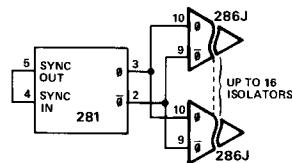
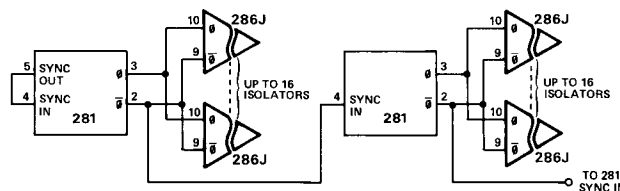

Figure 25. Model 281/286 Connection for Driving from 1 to 16 Isolators
Figure 26. Model 281/286 Connection for Driving > 16 Isolators
Model 281 oscillator is capable of driving up to 16 model 286Js as shown in Figure 25. An additional model 281 may be driven in a slave-mode, as shown in Figure 26 to expand the total system channels from 16 to 32. By adding additional model 281's in this manner, systems of over 1000 channels may be easily configured.
- ² For applications requiring more than 16 286Js, additional 281s may be used in a master/slave mode. Refer to Figure 26.